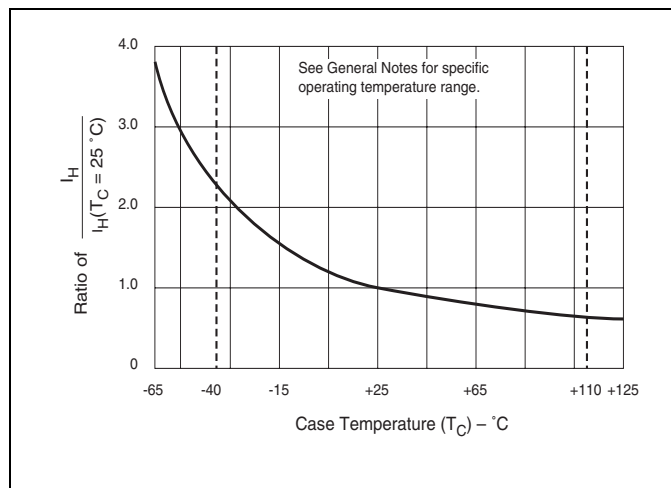

Figure E5.13 Normalized DC Holding Current versus Case Temperature
- (5) See Figure E5.13 for  $I_H$  versus  $T_C$  or  $T_L$ .